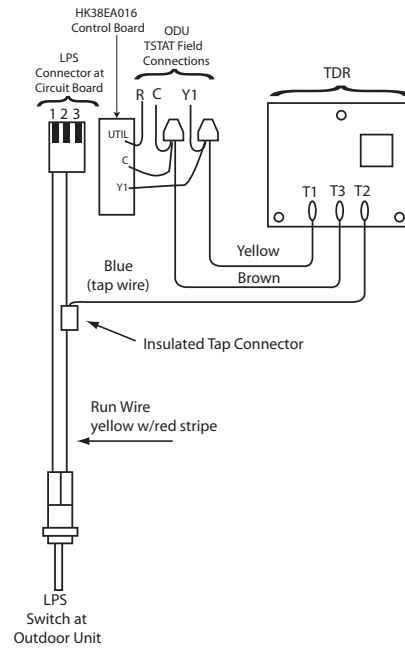

Fig. 6 - Two-Stage Communicating (HK38EA016)
- Two-stage communicating AC (HK38EA016) LPS run-wire is connected to pin #2 (middle pin, see Fig. 6).
2. Remove the black wire connected to the primary side of the transformer and the other side from 11 of the contactor. Since the transformer powers the outdoor control board and compressor solenoid, a low voltage control wire will need to be connected from R on the indoor to the UTIL terminal on the control board. See Fig. 6.